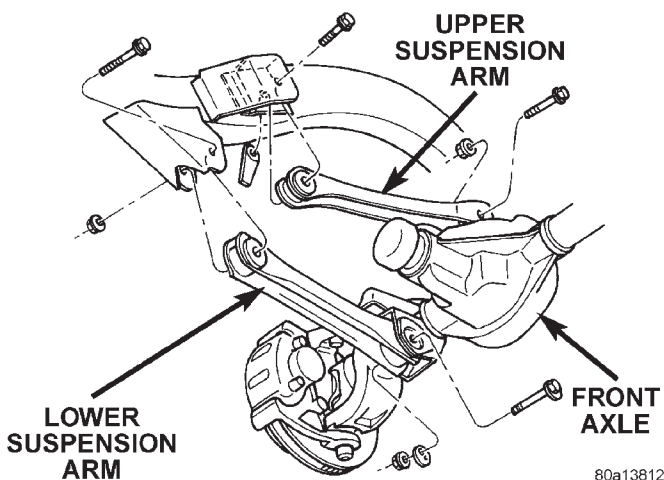

Fig. 3 Upper & Lower Suspension Arms
- (4) Remove the lower suspension arm nut and bolt from the axle (Fig. 3).
- (5) Remove the nut and bolt/cam bolt from the frame rail bracket and remove the lower suspension arm (Fig. 3).
- (1) Raise and support the vehicle.
- (2) Remove the upper suspension arm nut and bolt at the axle bracket (Fig. 3).
- (3) Remove the nut and bolt at the frame rail and remove the upper suspension arm.